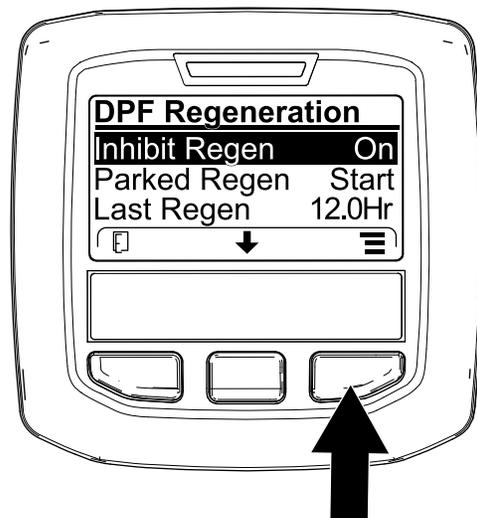
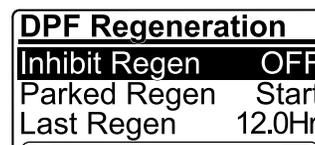

Figure 35
Figure 36
1. Access the DPF Regeneration menu, press the center button to scroll down to the INHIBIT REGEN option, and press the right button to select the Inhibit Regen entry (Figure 35).
2. Press the right button to change the inhibit regeneration setting from On to Off (Figure 35) or from Off to On (Figure 36).